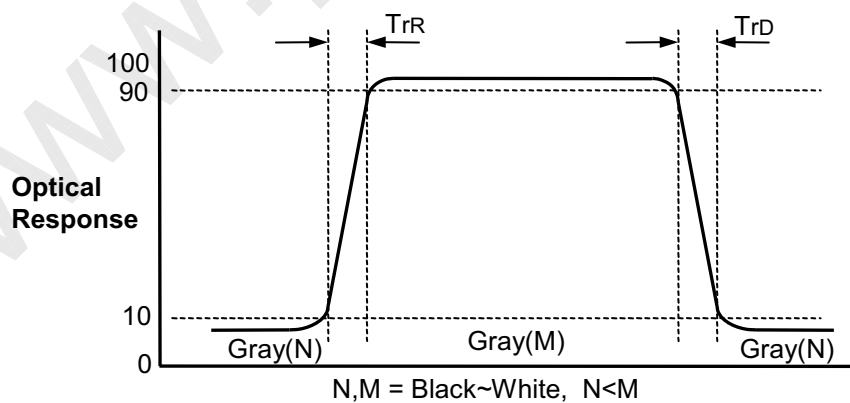

FIG.3 Response Time(G to G)
- Response time is the time required for the display to transit from G(N) to G(M) (Rise Time, Tr_R) and from G(M) to G(N) (Decay Time, Tr_D). For additional information see the FIG. 3. ($N < M$)